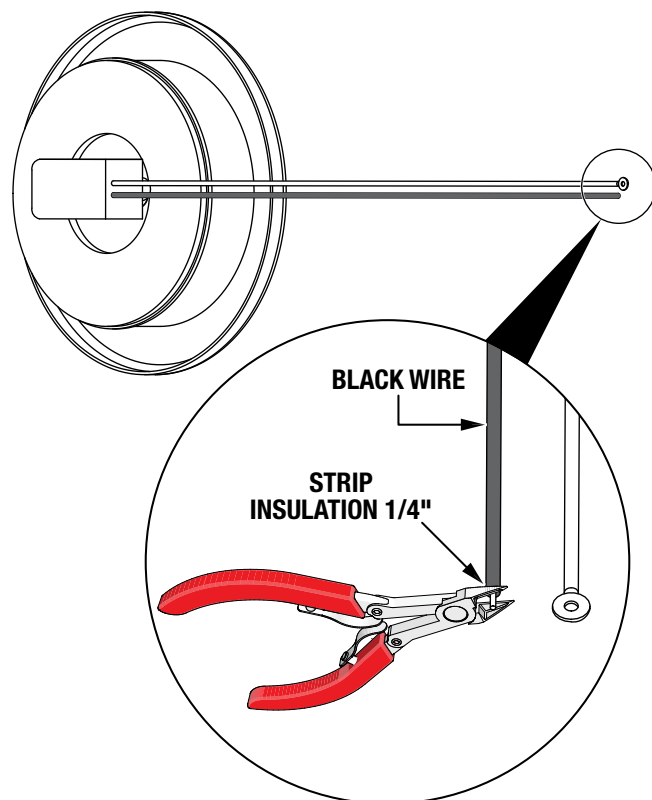

Figure 15. Wire Stripping
- Each grommet wire kit includes a white wire with a ring terminal and a black, cut wire. Strip the insulation back 1/4" from the end of the black wires to expose the conductors (Figure 15).